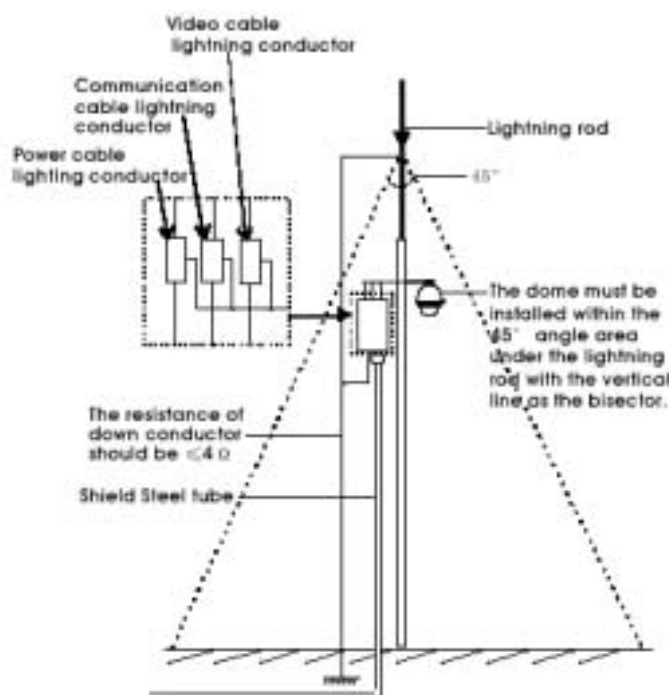

Figure 19
- The system must be grounded with equal potentials. The earth ground connection must satisfy the anti-interference and electrical safety requirements and must not short circuited with high voltage electricity net. When the system is grounded separately, the resistance of down conductor should be  $\leq 4 \Omega$  and the sectional area of down conductor should be  $\geq 25\text{mm}^2$  (refer to Figure 19).